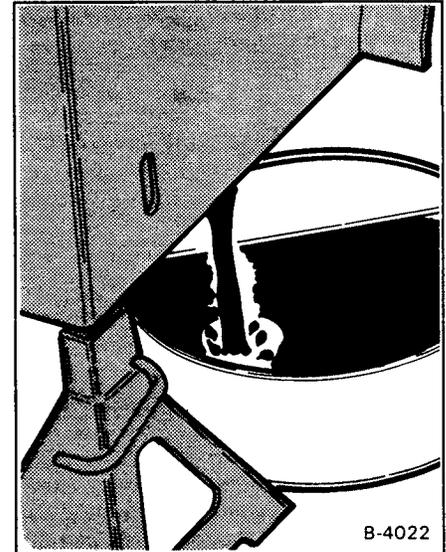

Fig. 1-32 Removing Drain Plug
(1) Remove the drain plug (Fig. 1-32).